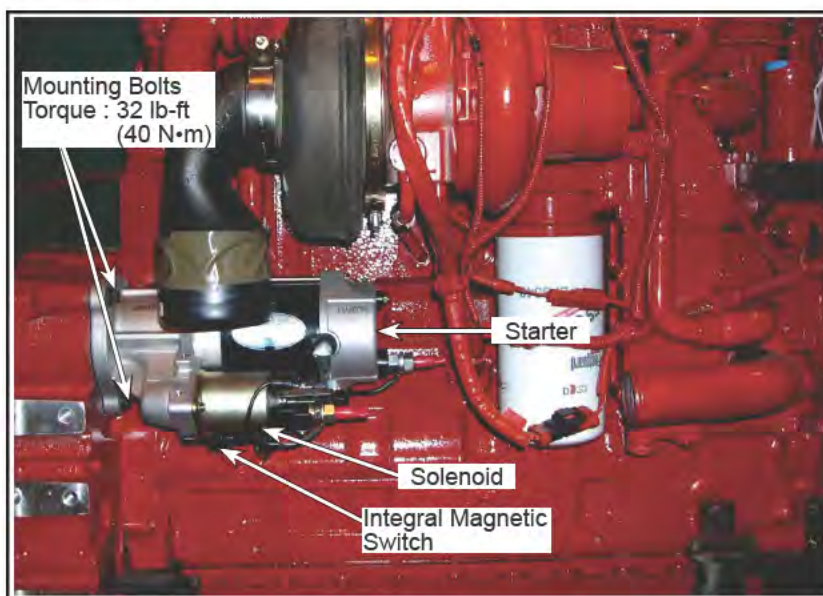

Figure 4 - Location of Solenoid, Magnetic Switch and Starter Cables
- 1.6. Disconnect the cables from the solenoid, magnetic switch and engine starter. Identify cables for proper reconnection (see Figure 4).
- 1.12. Install the retained hardware to secure the engine starter. Tighten the bolts to torque specifications (see Figure 4).
- 1.13. Connect the cables back to the solenoid, magnetic switch and engine starter (see Figure 4).